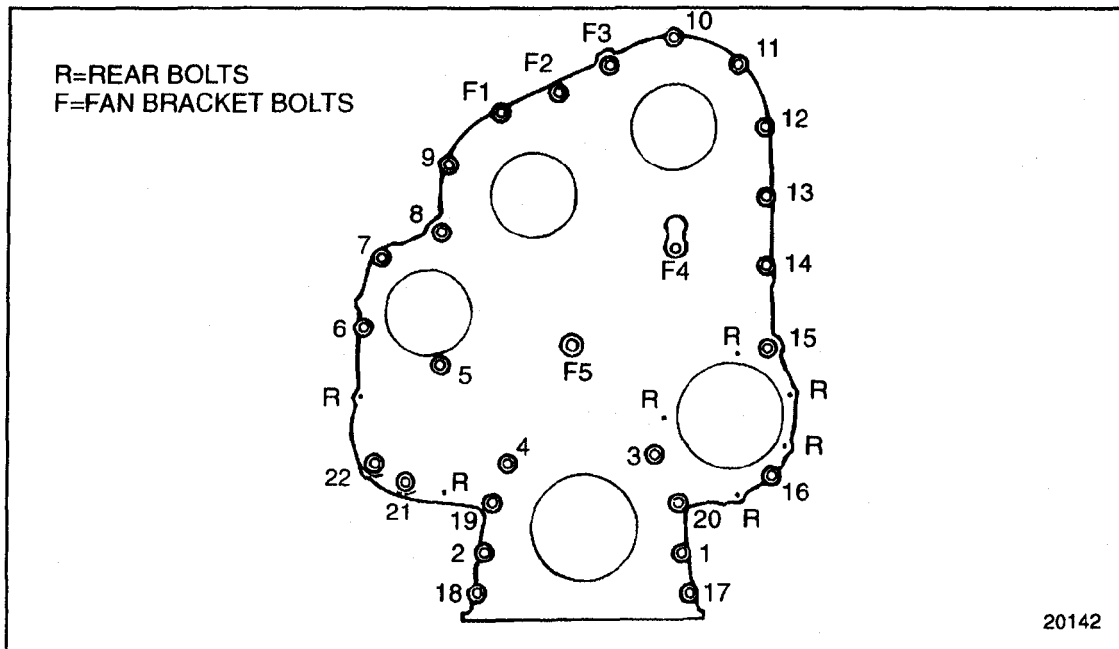

Figure 8-10 Gear Case Cover Mounting Bolt Locations
12. To prevent sags and low points, secure the vent line with the hose clip. Remove the gear case cover mounting bolt on the right side of the lifter bracket (bolt No. 12 – see Figure 8-10). Attach the hose clip to the bolt, reinstall, and torque the bolt to 58–73 N·m (43–54 lb·ft).